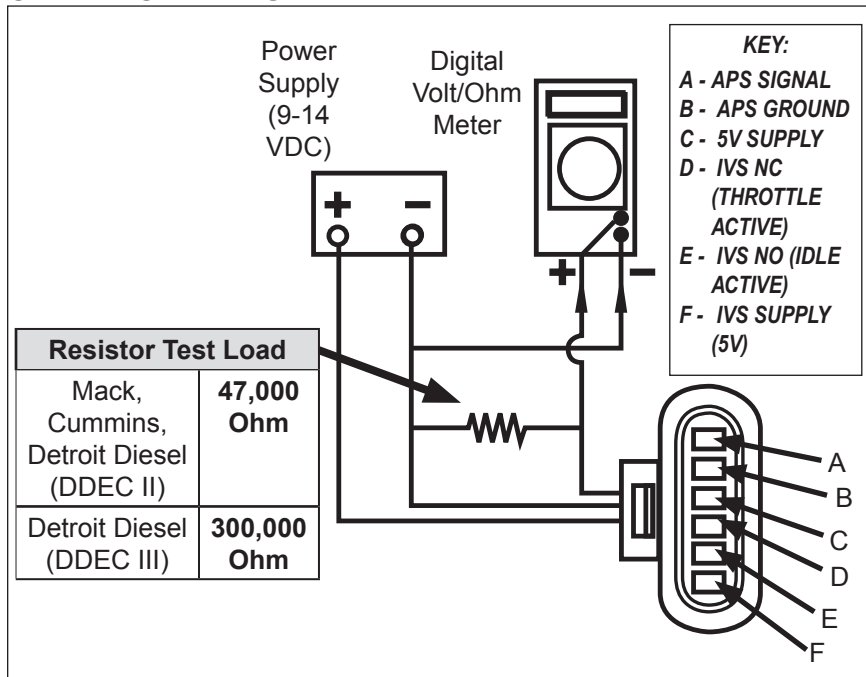

FIGURE 3 — OPERATIONAL TEST
3. Connect the potentiometer to a volt meter and power supply as shown in Figure 3. The power supply can be a 12 VDC battery in good condition, with known voltage output.